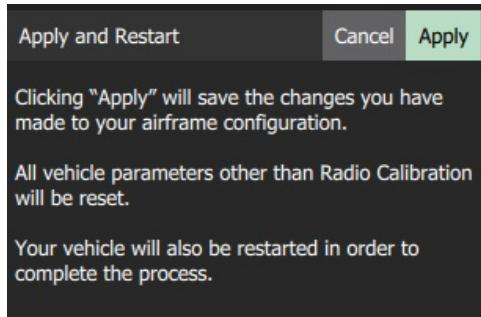

Figure 3.7: Airframe apply prompt
4. Click **Apply and Restart**. Click **Apply** in the following prompt to save the settings and restart the vehicle (figure 3.7).